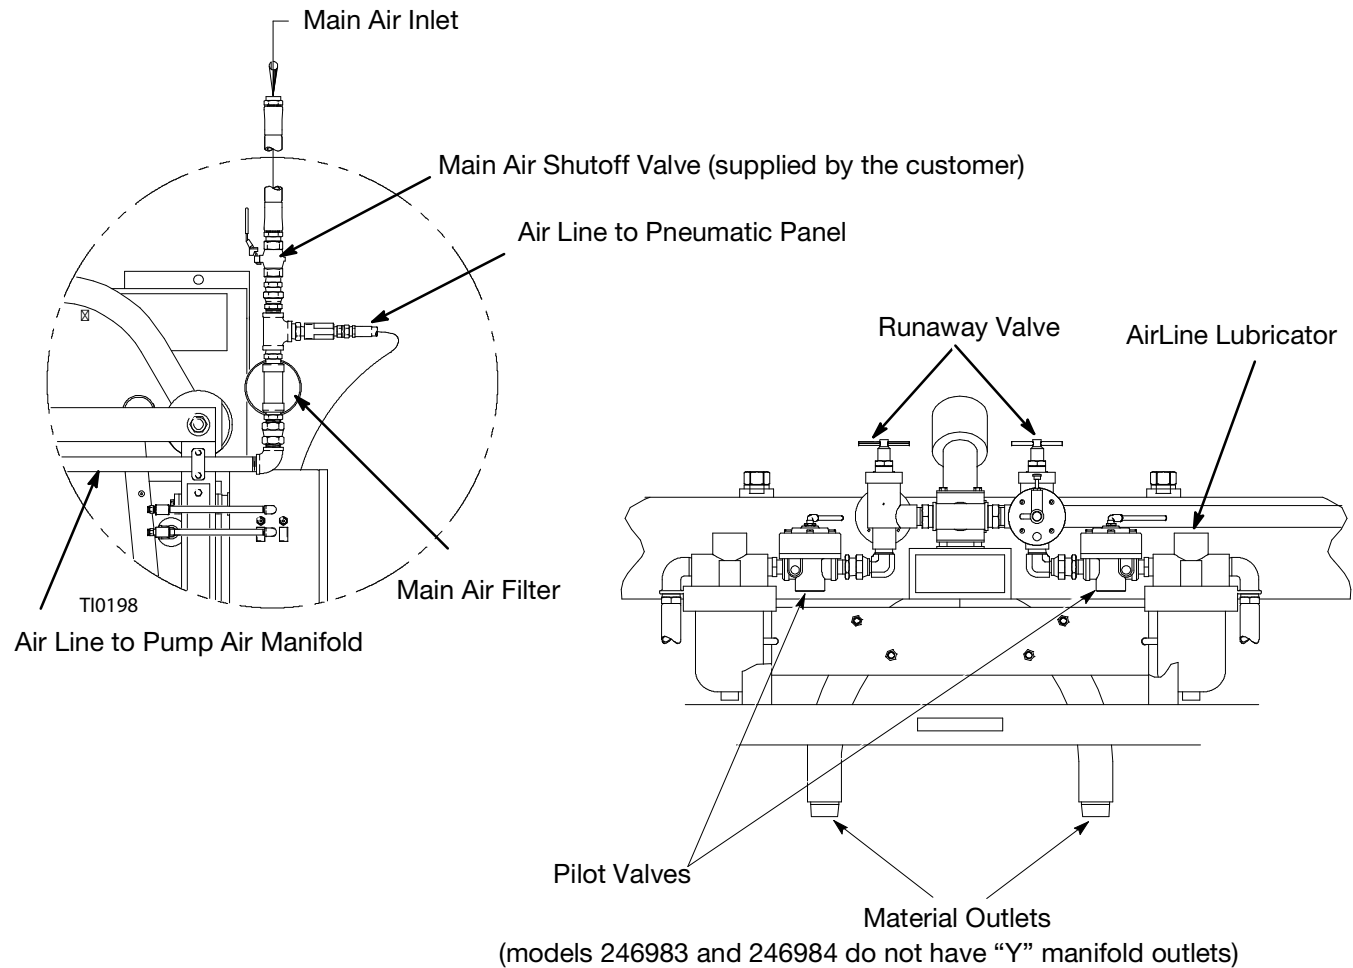

Fig. 5
4. Open the main air shut off valve, making air pressure available to the unit. See FIG. 5 on page 18.